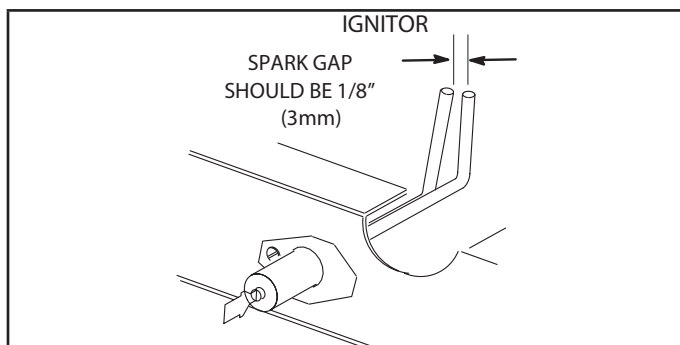

FIGURE 38
- 4 - Locate the ignitor under the left burners. Check ignitor spark gap with appropriately sized twist drills or feeler gauges. See FIGURE 38.
5 - Check the alignment of the ignitor and the sensor as shown in FIGURE 38 and TABLE 16.